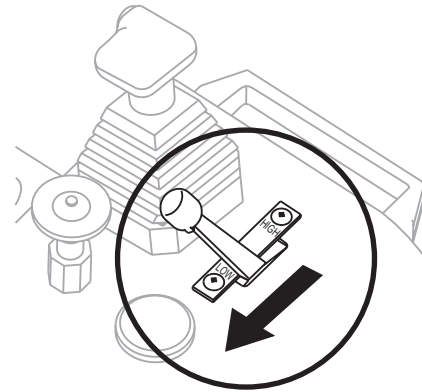

Figure 7. Engine Throttle Control Lever (Low)
4. Place the **engine throttle lever** (Figure 7) in the **LOW** position.